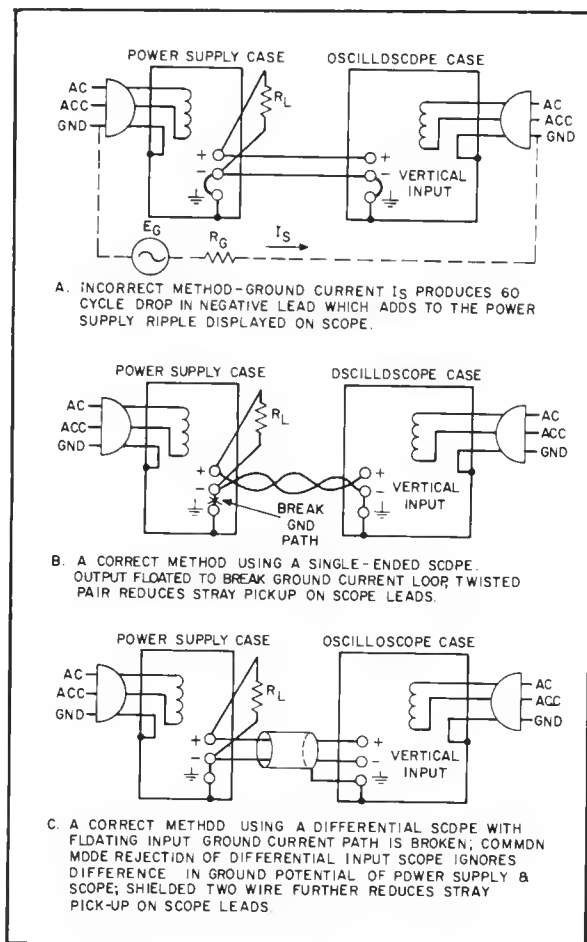

Figure 5-3. Ripple and Noise, Test Setup
- a. Connect test setup as shown in Figure 5-3.
5-22 Ripple and Noise Measurement. Figure 5-3 shows an incorrect method of measuring p-p ripple. Note that a continuous ground loop exists from the third wire of the input power cord of the supply to the third wire of the input power cord of the oscilloscope via the grounded power supply case, the wire between the negative output terminal of the power supply and the vertical input of the scope, and the grounded scope case. Any ground current circulating in this loop as a result of the difference in potential E_G between the two ground points causes an IR drop which is in series with the scope input. This IR drop, normally having a 60 Hz line frequency fundamental, plus any pickup on the unshielded leads interconnecting the power supply and scope, appears on the face of the CRT. The magnitude of this resulting noise signal can easily be much greater than the true ripple developed between the plus and minus output terminals of the power supply, and can completely invalidate the measurement.
5-23 The same ground current and pickup problems can exist if an RMS voltmeter is substituted in place of the oscilloscope in Figure 5-3. However, the oscilloscope display, unlike the true RMS meter reading, tells the observer immediately whether the fundamental period of the signal displayed is 8.3 milliseconds (1/120 Hz) or 16, 7 milliseconds (1/60 Hz). Since the fundamental ripple frequency present on the output of an HP supply is 120 Hz (due to full-wave rectification), an oscilloscope display showing a 120 Hz fundamental component is indicative of a "clean" measurement setup, while the presence of a 60 Hz fundamental usually means that an improved setup will result in a more accurate (and lower) value of measure ripple.
5-24 Figure 5-3 shows a correct method of measuring the output ripple of a constant voltage power supply using a single-ended scope. The ground loop path is broken by floating the power supply. Note that to ensure that no potential difference exists between the supply and the oscilloscope it is recommended that whenever possible they both be plugged into the same ac power buss. If the grounds must be at earth ground potential.
5-27 In most cases, the single-ended scope method of Figure 5-3 will be adequate to eliminate non-real components of ripple and noise so that a satisfactory measurement may be obtained. However, in more stubborn cases it may be necessary to use a differential scope with floating input as shown in Figure 5-3C. If desired, two single conductor shielded cables may be substituted in